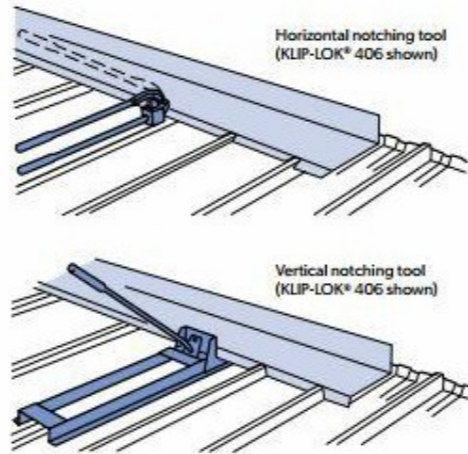

Figure 11.3.1
- Be sure that flashing fit closely. Transverse flashings should be notched or scribed (Figure 11.3.1).